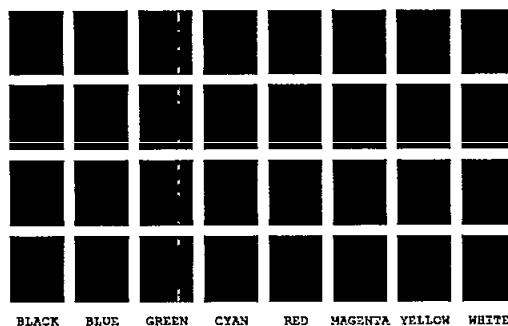

Figure 3
- (4) Confirm that the screen displays test graphic pattern as shown in Figure 3 on next page.
- (5) Carefully adjust the screen contrast by pressing " $\leftarrow$ " and " $\rightarrow$ " keys to obtain the best contrast.
- (6) Fully turn the LCD Contrast Control to the left (and right) and check if the test pattern goes off on brighter (and darker) background.
- (7) Press "Space" key.
- (8) Press "Y" key. (Or press "N" key if readjustment is required and repeat from step (5).)